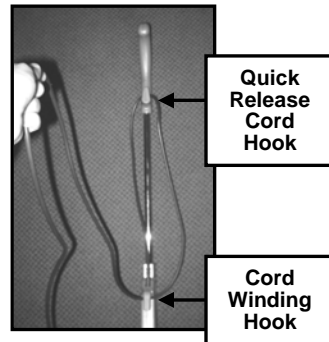

Fig. 5
- Wind power cord around the quick release cord hook and the cord winding hook. (Fig. 5) To unwind the power cord, simply twist the quick release cord hook to the left or right.